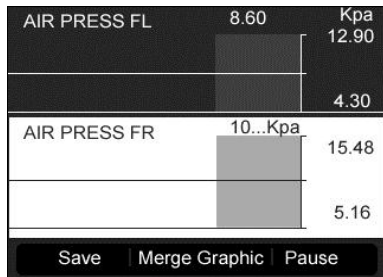
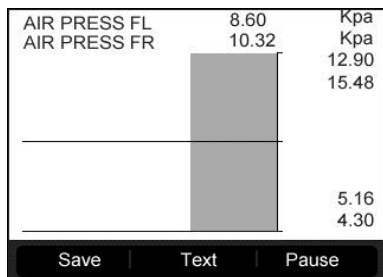

Figure 14.7
Figure 14.8
- When the sensor data is shown in graph, the tool offers two more options: **Two Graphic** and **Merge Graphic**. The first option can display two graphs on the same screen (Figure 14.7), and the last option can merge the two graphs into one. (Figure 14.8)